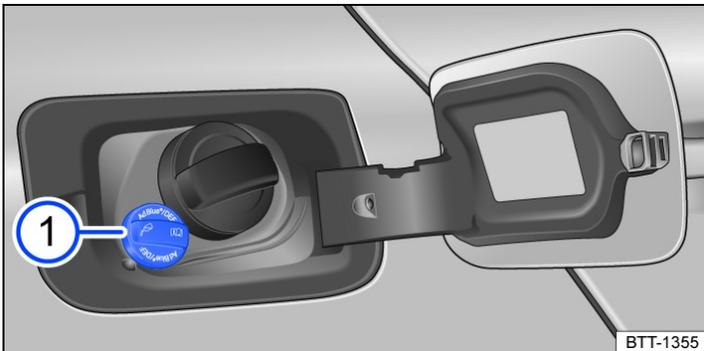
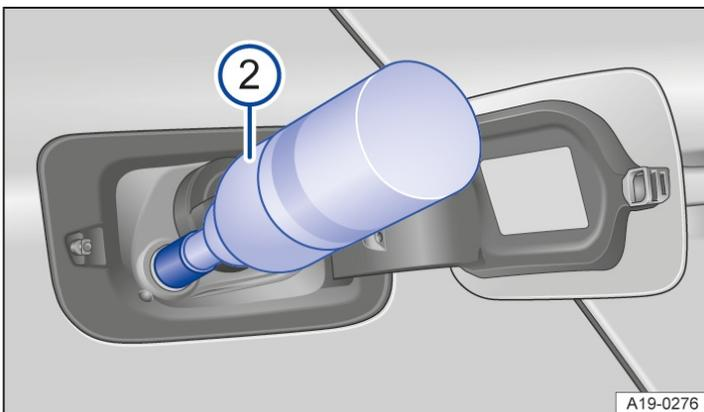
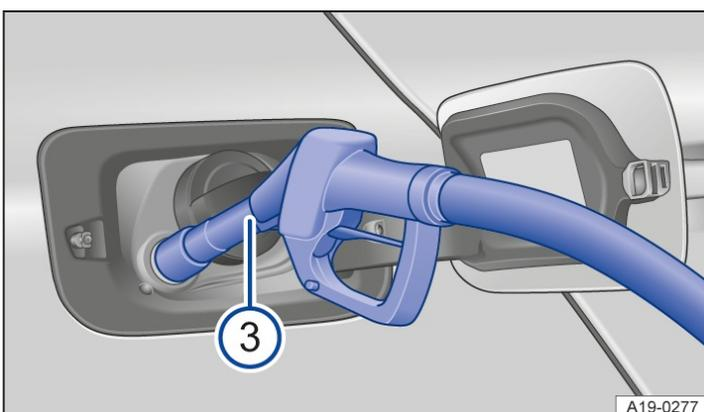

Fig. 1 Behind the tank flap: tank cap for AdBlue (illustration).
Fig. 2 Behind the tank flap: refilling AdBlue using the refill bottle (illustration).
Fig. 3 Behind the tank flap: refilling AdBlue using the nozzle (illustration).
Key to *Fig. 1*, *Fig. 2* and *Fig. 3*:
The AdBlue® filler neck is located behind the tank flap next to the tank filler neck for fuel → *Fig. 1*.
- Hold the AdBlue® filler nozzle so that the handle is facing down in order to ensure optimum filling → *Fig. 3*.